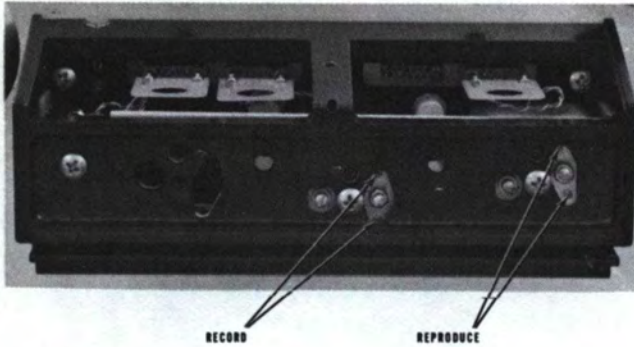

Fig. 4D-1. Head Height and Zenith Adjustments
Step 4: Turn the two hex-socket setscrews (see Fig. 4D-1) clockwise the same number of turns, until the head laminations barely appear at the tape bottom edge.
To adjust the head zenith, use the two hex-socket setscrews (also used for head height adjustment, see Fig. 4D-1). As the adjustment is being made, visually check the zenith by lining up the head with the capstan or the scrape-flutter idler. Turn the outermost setscrew in and the innermost setscrew out, to move the stack bottom in (away from the tape). To move the bottom of the head out (toward the tape), reverse the procedure. Be sure both setscrews remain snug. When the zenith adjustment seems correct, recheck it with the grease pencil method described above. Repeat the adjustment until the head zenith is correct (no zenith adjustment is required for the erase head).